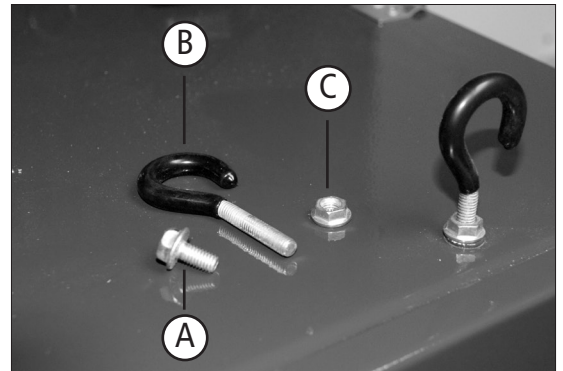

Fig 2
2. The air filtration unit can be hung from the ceiling. Remove four screws from cabinet top (Fig 2, A).
3. Hang the unit using four hook bolts (Fig 2, B), and four hex nuts (Fig 2, C) provided.